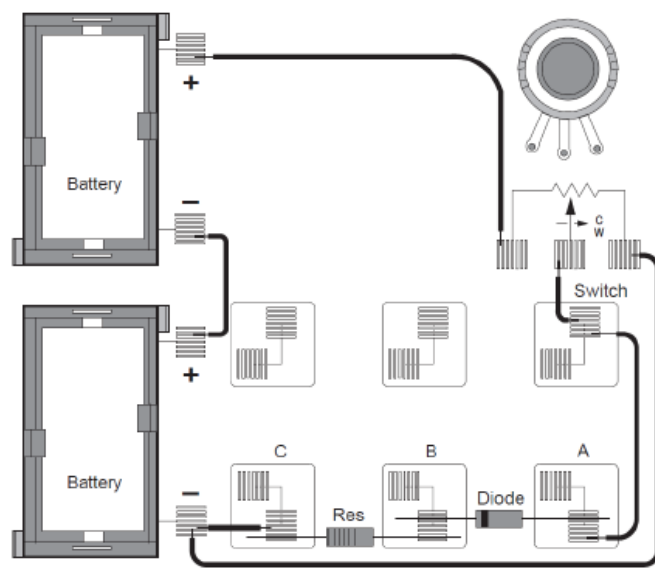
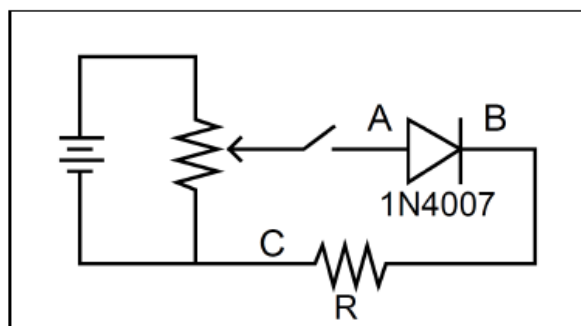

Figure 9.1a
Figure 9.1b
1. Connect the circuit shown in Figure 9.1a using the 1N-4007 diode you've been supplied with and the 1 k Ω resistor. Use Figure 9.1b as a reference, along with Figure 9.1a, as you record your data. Note the direction that the diode is oriented, with the differently-colored band closer to point **B**.